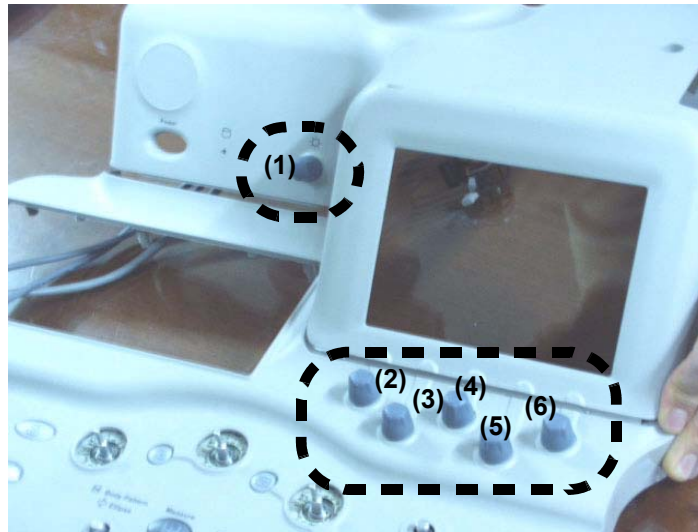

Figure 8-73 Pulling out LCD encoder knobs
- 1.) Pull out five LCD encoder knobs (2-6) and one LCD Brightness Encoder from the front side of the keyboard. Refer to section Figure 8-73 on page 29..